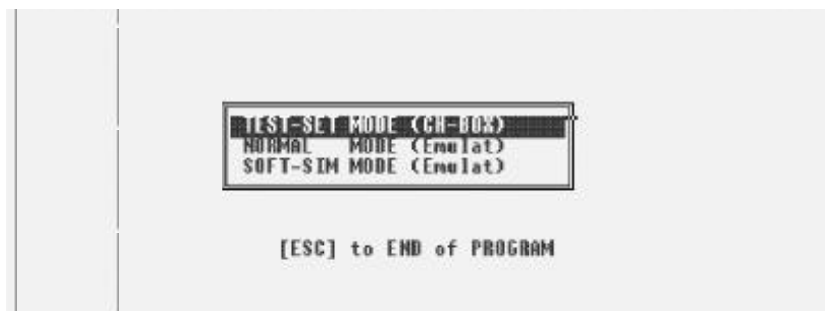

Figure 6: PC Screen (SCRN10)
- Channel box software loaded and the screen indicating as shown (figure 6):